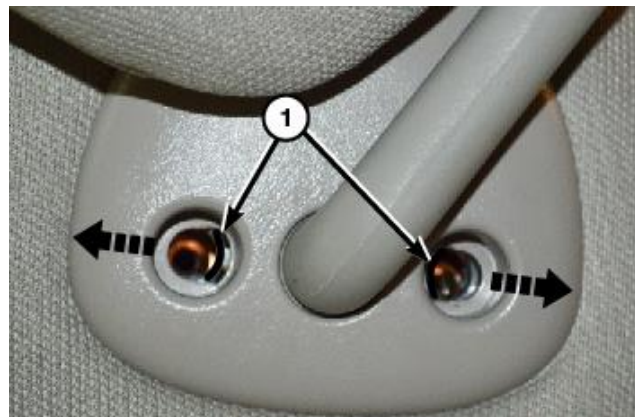

Figure 59 – Visors
Using a small flat bladed tool or equivalent, release the retaining tabs (1) and separate the visor from the headliner (Figure 59).